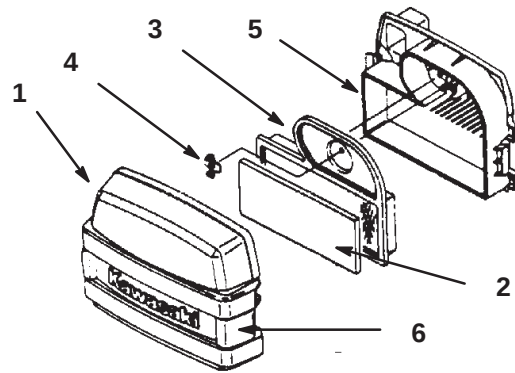

Figure 37
2. Clean around the air cleaner to prevent dirt from getting into the engine and causing damage. Unlatch two side latches and remove the air cleaner cover (Fig. 37).
3. Carefully remove the foam element from the paper element (Fig. 37).
4. Unscrew the wing nut and remove the paper element (Fig. 37).